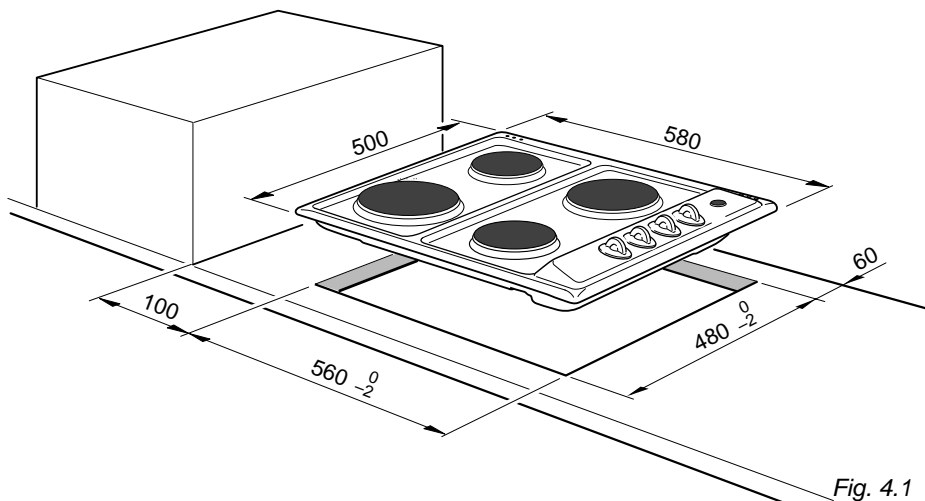

Fig. 4.1
In order to install the cooker top into the kitchen fixture, a hole with the dimensions shown in fig. 4.1 has to be made, bearing in mind the following:
- ✓ the cooker top must be kept no less than 100 mm away from any side wall (fig. 4.1).